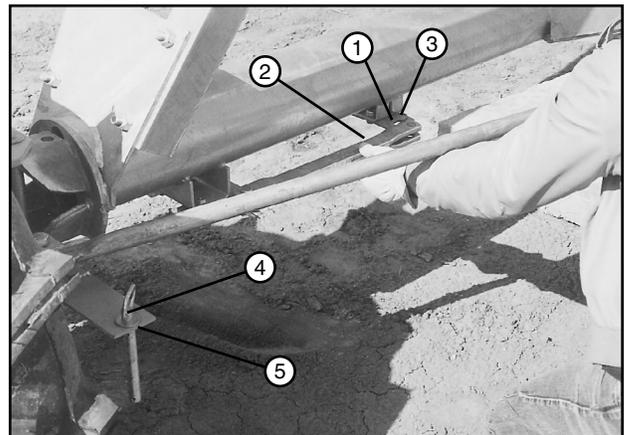

Figure 39-3 1. Carrier Spring 4. Torque Pin
13. Lift each carrier spring and release the tow link bar from the tow link carrier. Remove torque pin from each gearbox steering arm. See figure 39-3.